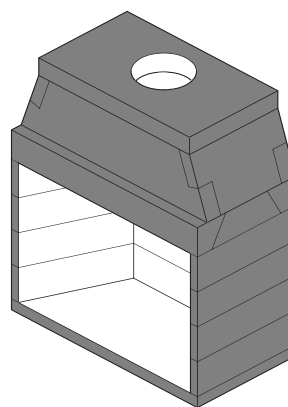

FIGURE 18
12. After firebox is assemble in the field make sure that all joints are parged with Max SealCoat mortar and that there is no area missing the SealCoat. Any missing SealCoat on exterior of the firebox needs to be covered. **(Figure 18)**
14. The valve box is equipped with a five foot (5'-0") pilot line that allows the valve box to be located in an exterior closet, shelf system or other convenient location within the scope of this gas line. Screw Valve box to framing members allowing door accessible for maintenance. **(Figure 18)**